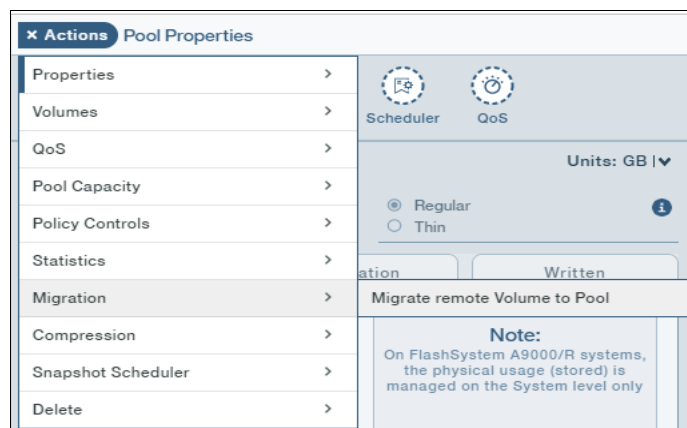

Figure 8-41 Selecting Migration in IBM FlashSystem A9000
- In the GUI, select the pool to use for the migrated volumes and then select **Actions** → **Migration** → **Migrate remote Volume to Pool**, as shown in Figure 8-41.